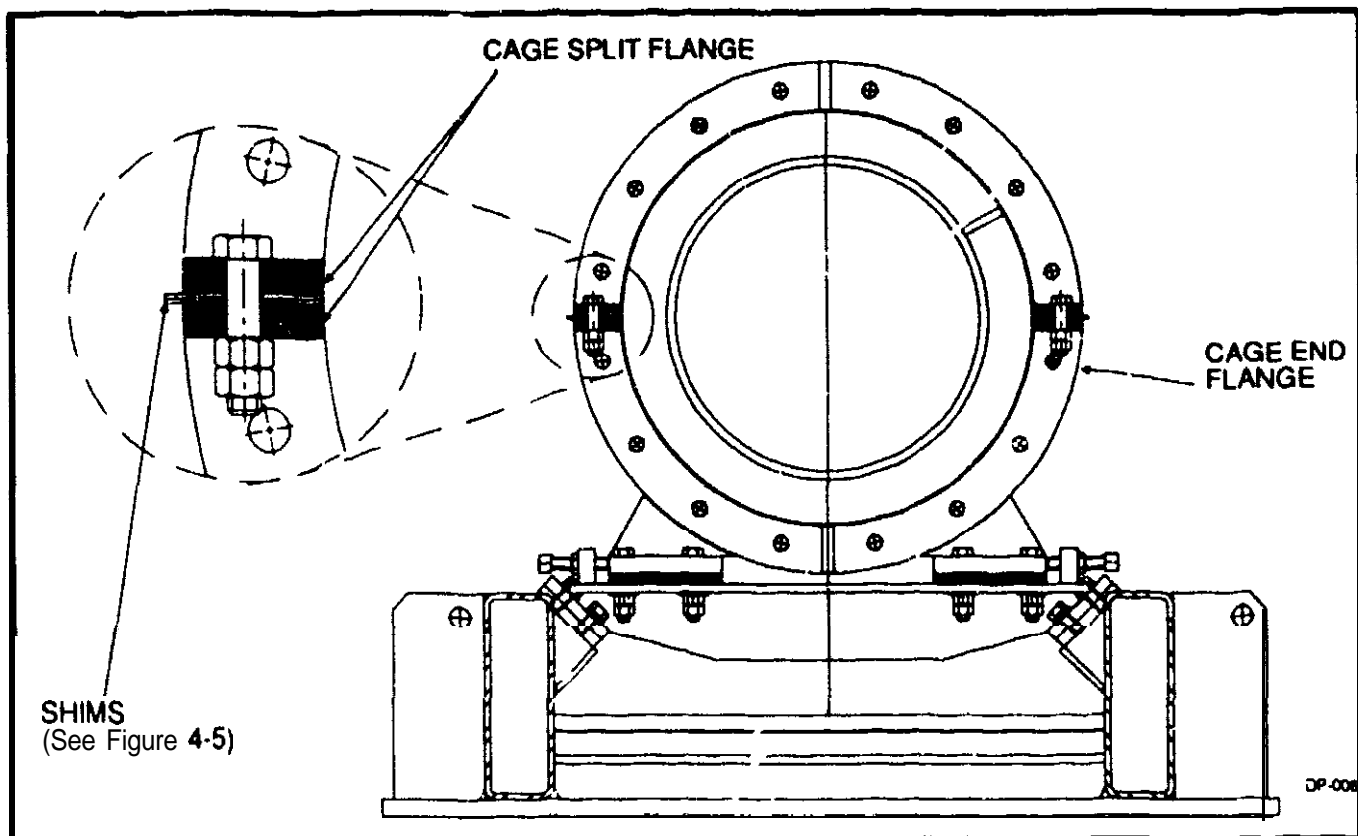
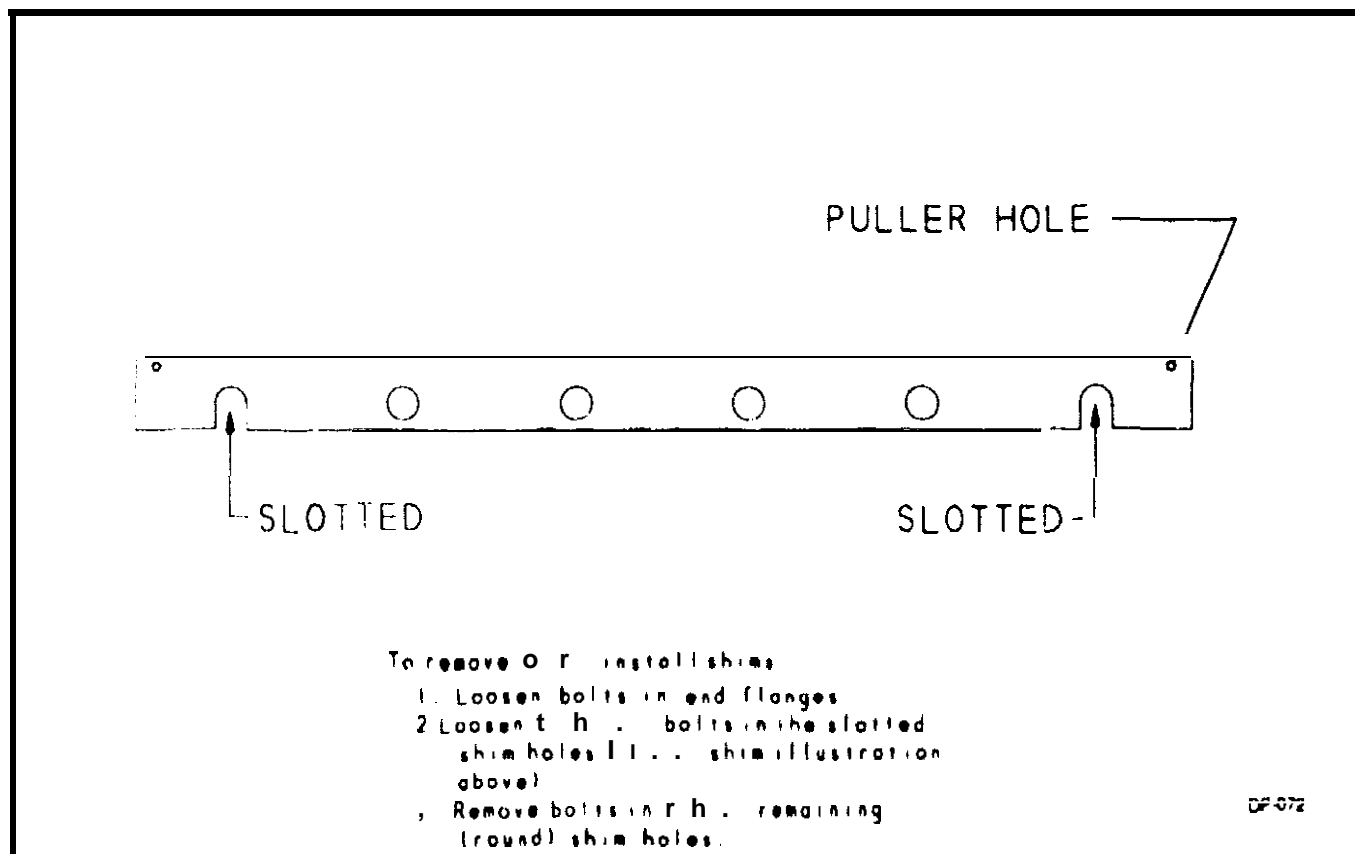

Figure 4-4
Figure 4-5
1. **Loosen** the cage split flange bolts on the cage being adjusted. **See** Figure 4-4. Some of the bolt holes in the shims are **slotted** to permit shim removal or installation without having to remove all the bolts. Only two of the bolts have to be removed to get the shims in or out. The **locations** of the bolts that must be removed are indicated in **Figure 4-5**.